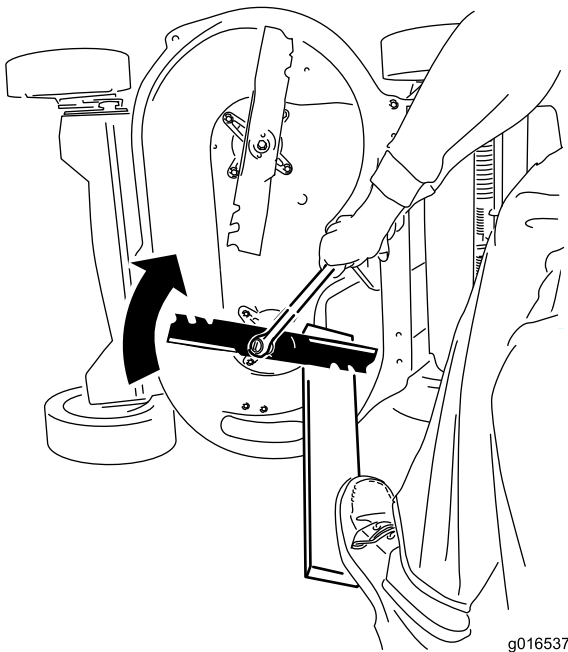

Figure 5
2. Steady each blade with a block of wood, and turn the blade bolt clockwise with a torque wrench as shown in Figure 5; torque the blade bolt to 60 ft-lb (82 N-m).